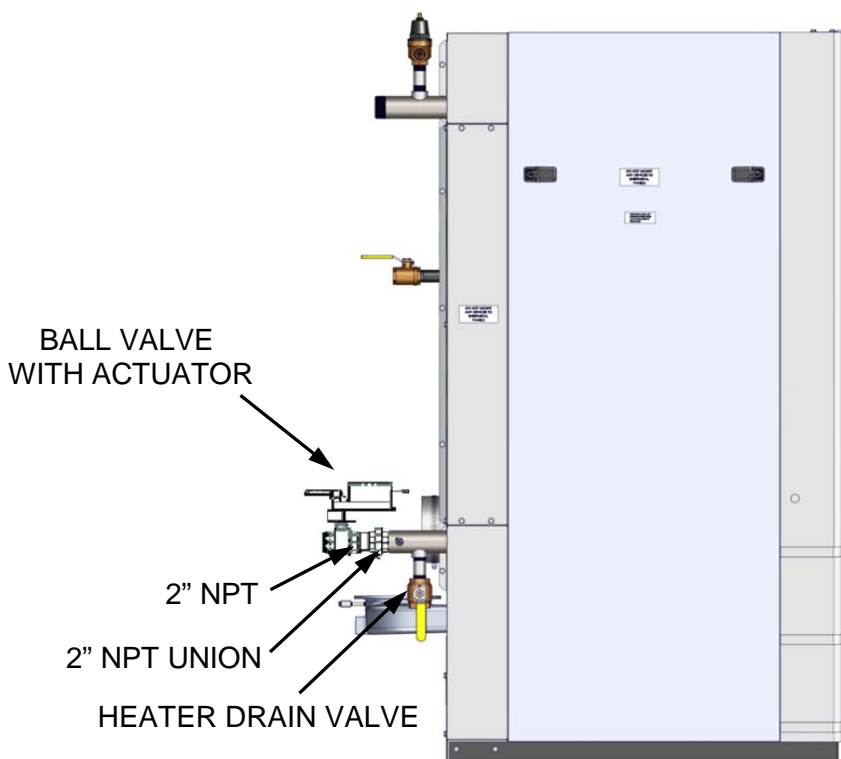

Figure 2-3b. Innovation Water Heater Equipped With Sequencing Valve
If the Innovation Water Heater was ordered for use with the C-More Water Heater Management (WHM) system and the actuator-controlled ball valve is not already installed on the unit (Figure 2-3b), it will be packed separately within the shipping container.
3. Ensure that the valve is positioned with the actuator enclosure position as shown in Figure 2-3b.